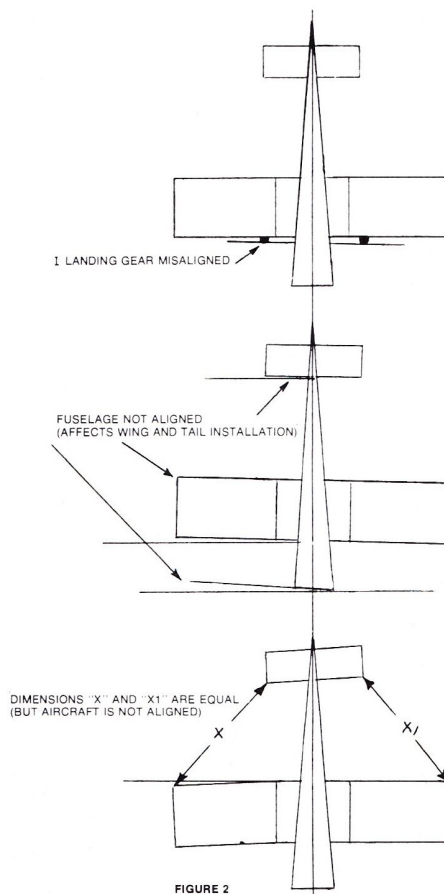
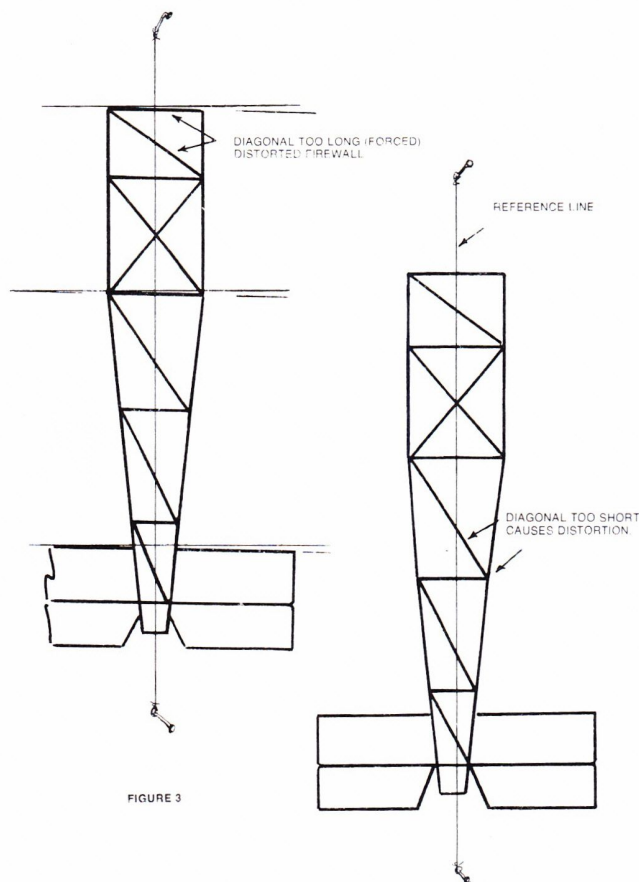

FIGURE 2
FIGURE 3
*NOTE: There is such a large variety of nut plates that it would be best to check the spacing between the wing holes from the nut plate you have in your hand. Rather than take a chance on precise measurement and layout of the hole pattern, I prefer the foolproof method of drilling the holes by using a nut plate as a drilling template. See Figure 2.
of pre-planning. The sketches (Figure 2) propose to show the sequence of the preparation steps required for installing an anchor nut. It can be seen that if you are installing several nut plates, switching to another drill size, and then to a countersunk, can be tiresome and time consuming. It would help if you had a couple of electric drills handy.
Rectangular fuselages are checked at each station using a plumb bob and a large carpenter's square (See figure 2). When constructing any fuselage whose bottom longerons are closer together than the top longerons, the cross sectional check at each station must be accomplished using a plumb bob (see figure 3). An alternate method would be to use a combination protractor head to check the angle formed by each side of the fuselage. The angle reading for each side should be identical. In using this method, however, make sure that the fuselage is resting on a perfectly level surface.